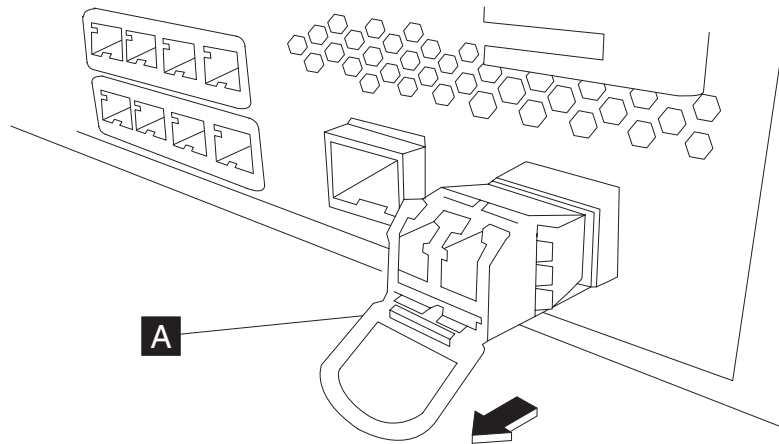

Figure 28. Removing the SFP transceiver
3. Pull downward on the blue latch on the front of the transceiver, as shown in Figure 28 on page 63.